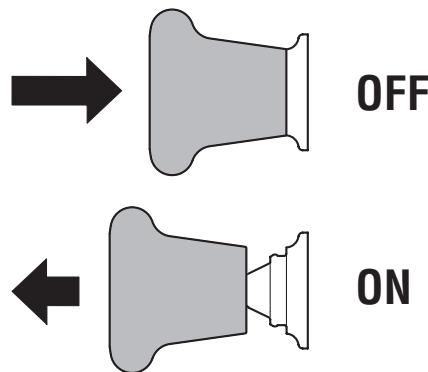

Figure 3-5
2. Pull the PTO switch up/out into the engaged (ON) position. See Figure 3-5.